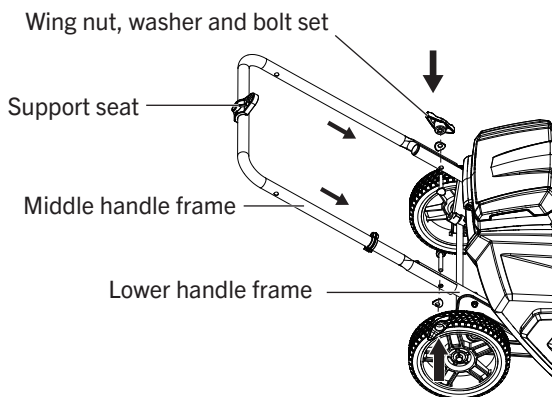

FIG. 4
1. Align the two holes in the middle handle frame with the holes in the lower handle frame. Make sure the support seat on the middle handle frame is facing up as shown in Fig. 4.